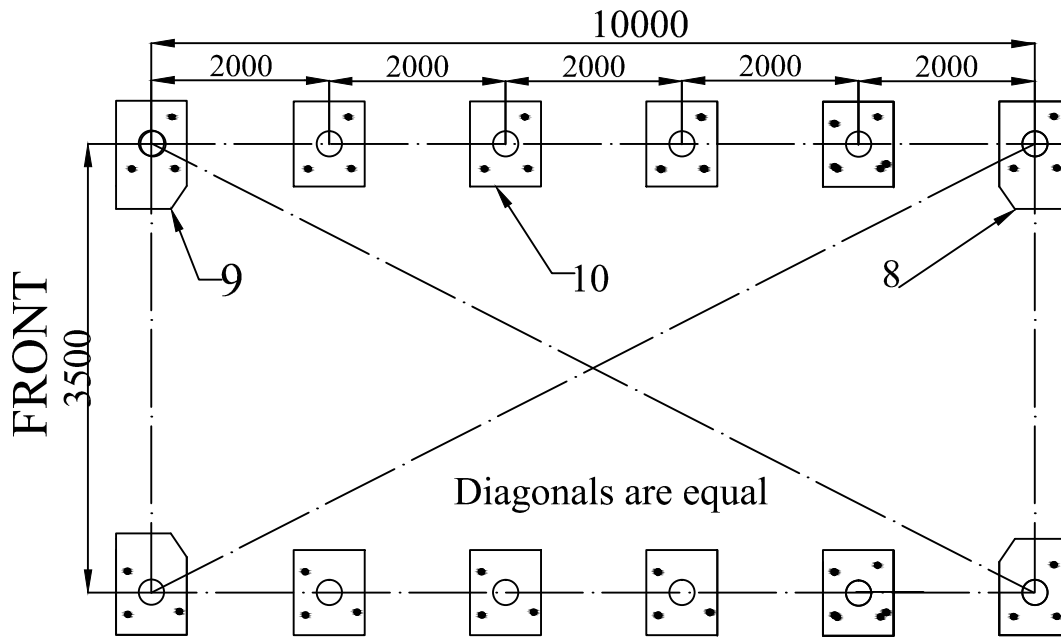

Figure 2 Position of Base Flanges
Begin by determining exact location of the four (4) corners of the building. Mark front edge and side-to-side width of assembly on ground. Drive alignment stakes into the ground outside of the markings, and draw alignment strings along both ends and sides of the building to the dimensions shown in Figure 2. The outline of the strings will represent the final location of the base flanges. The initial location of each Corner Base Flanges is critical to the alignment and fit of the frame components and cover.
Locate the Left Corner Base Flange and Right Corner Base Flange(part #8*9). Secure the base flanges with Stake Pegs (Part #24). Measurements shown in Figure 2 are to the center of the upright sockets on each Base Flange.